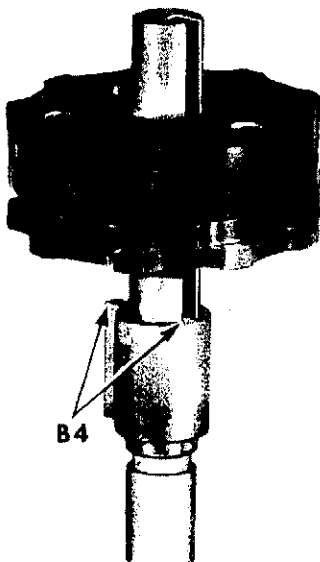

Fig. 255A
1. With locating tool No. T4345 set in an upright position, mount stack of discs onto locating tool with keys **B4** facing up, as shown in **Fig. 255A**.